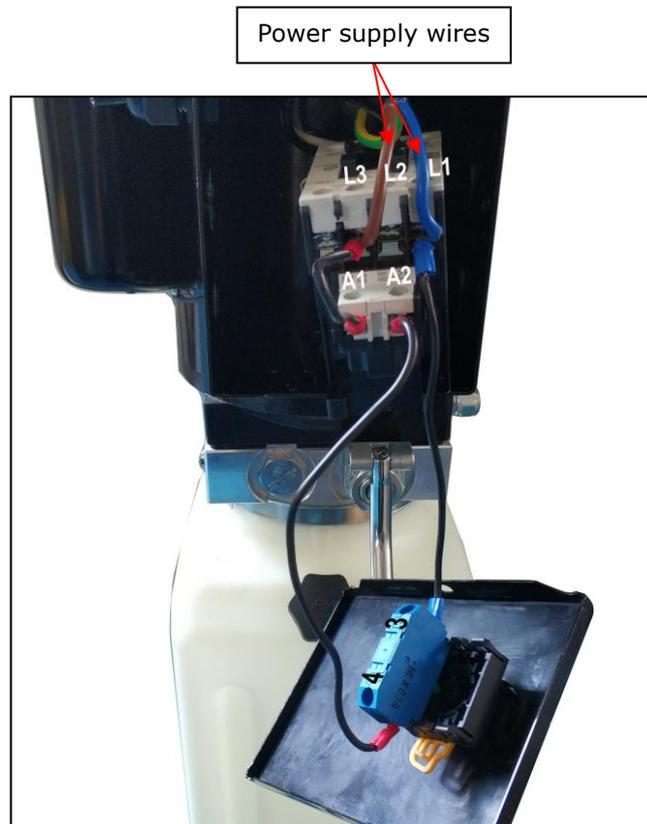

**Fig. 31**
1. Circuit diagram (See Fig.31)